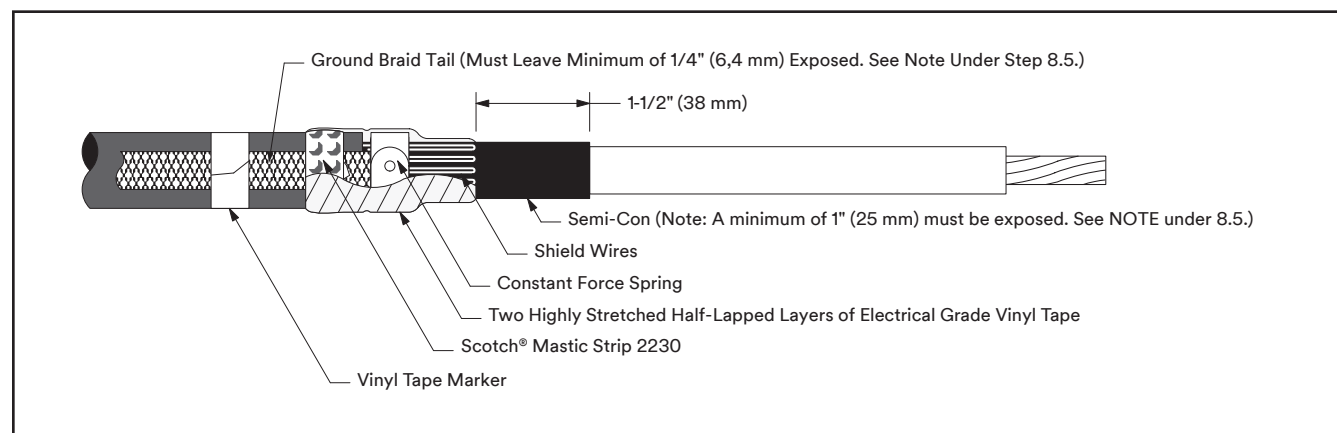

Figure 14
- 8.5 Wrap two highly stretched half-lapped layers of electrical grade vinyl tape around mastic seal, constant force spring and exposed shield wires (Figure 14). Be sure to cover all exposed mastic